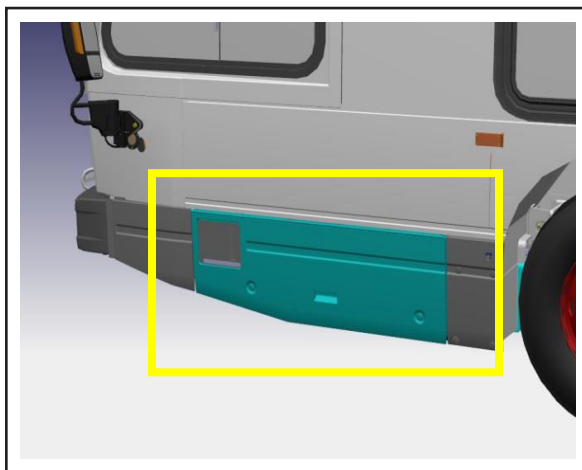

Figure 5 - eSteering Compartment
- 1.7. Open the eSteering compartment door to access the hydraulic tank (see figures 5 and 6).